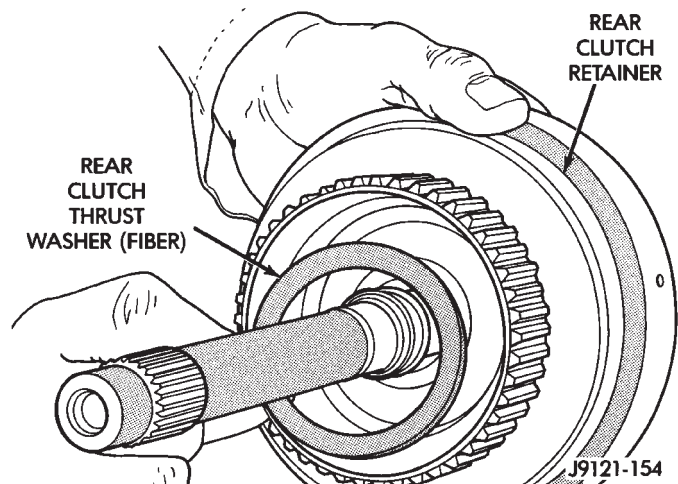

Fig. 222 Installing Rear Clutch Thrust Washer
(15) Coat rear clutch fiber thrust washer with petroleum jelly and install washer over input shaft and into clutch retainer (Fig. 222). Use enough petroleum jelly to hold washer in place.